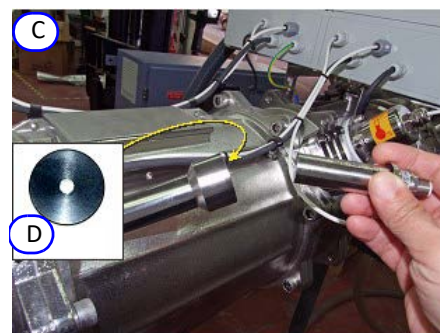
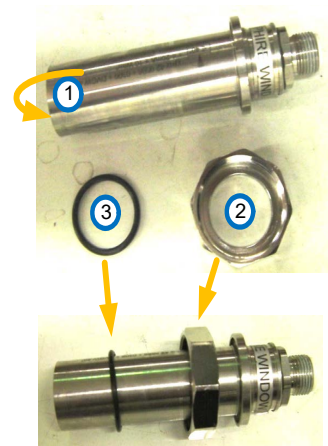

Figure 10-44: Removing a Sensor C 2 (Generic View)
Figure 10-47: Sensor, nut and washer
- Step 3.** Carefully pull the sensor out of the housing (**Figure 10-44**). If a pinhole (D) is present it slides out. The large nut comes off together with the sensor.
- Step 4.** Check the sensor's lens (1 in **Figure 10-47**) for condensation. If present, using a dry lens cloth, dry the lens thoroughly.
- Step 13.** Unpack the new sensor (**Figure 10-47**) and the sensor pinhole (**D** in **Figure 10-44**, if supplied).